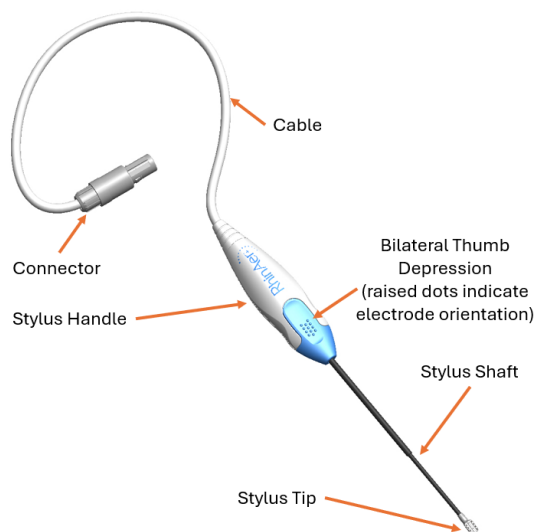
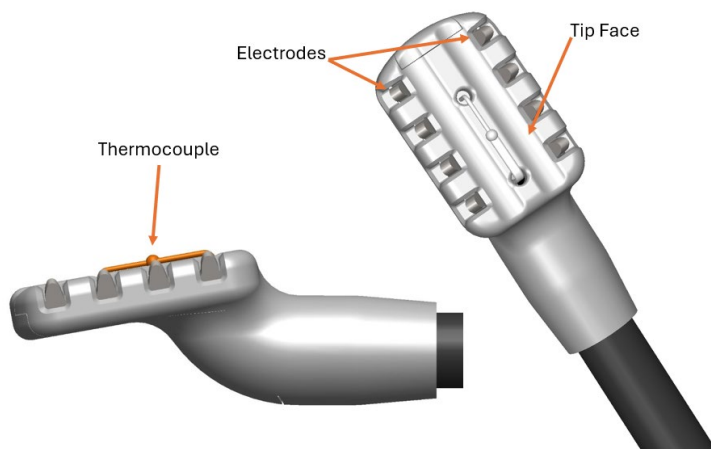

Figure 1: Stylus
Figure 2: Stylus Tip
The RhinAer+ Stylus consists of a handle, shaft and treatment tip (see Figure 1). An array of bipolar electrodes is positioned on a non-conductive tip (see Figure 2) which is attached to a handle via a non-conductive shaft. A temperature sensor is located on the tip (see Figure 2) to monitor tissue temperature. The Stylus is attached to a temperature-controlled radiofrequency generator via a flexible cable.
20. Position the electrode-containing portion of the tip of the Stylus against the target tissue of the nasal airway and exert gentle pressure. The orientation of the electrodes may be verified by the raised dots on one side of the Bilateral Thumb Depression on the Stylus handle. Refer to Figure 1.